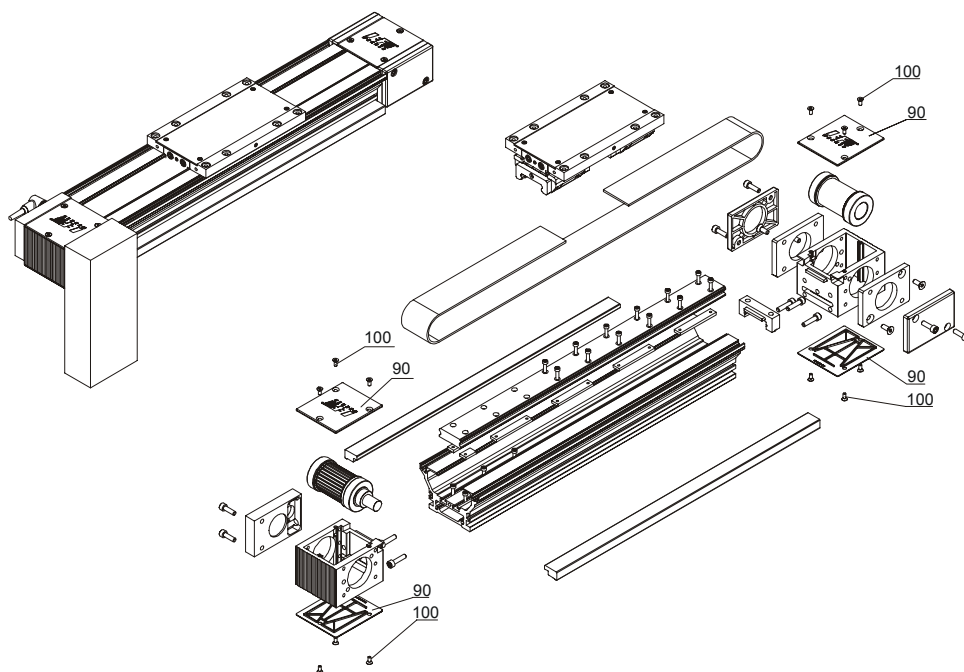

Figure 24: Module 115/42 Installation Variant 1, Exploded View
- (3) Remove the covers (pos. 100, *Figure 24*)